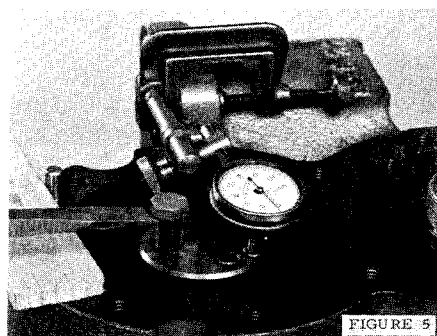

FIGURE 5
- Remove the driven gear retaining plate, Figure 5. With a puller rigged as shown, pull the gear from main rotor shaft. *NOTE: If the gear is to be reused, pulling directly on gear will damage teeth. Use a shaft protector to prevent damage to end of the rotor shaft.*
Mount an indicator with the button on end of either rotor shaft; set needle on zero (Figure 5). Pry the rotor up until it hits end plate and note if indicator reading falls within total end clearance range in clearance chart (.010-.028). Make same check on other rotor. Due to machining tolerances at the inlet end of the cylinder, there may be up to .010" variation in the indicator reading of the two rotors. The indicator reading of either rotor should not be less than minimum total end clearance.